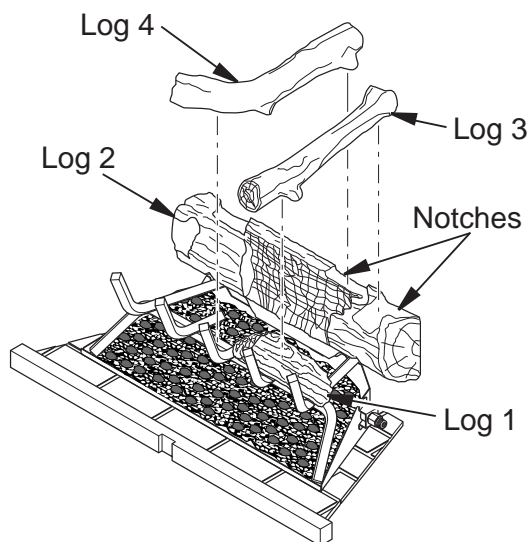
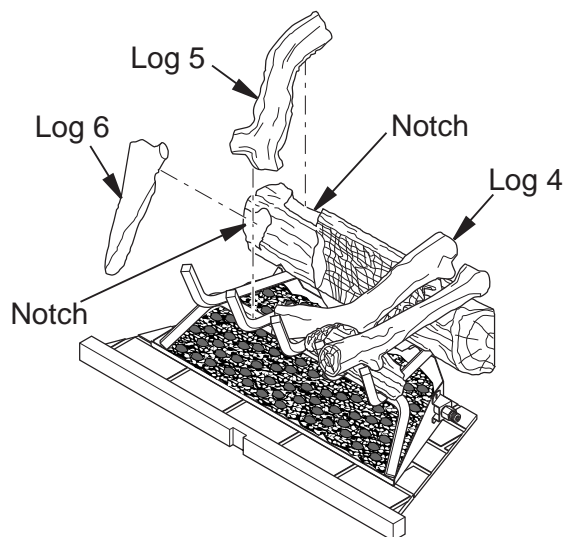
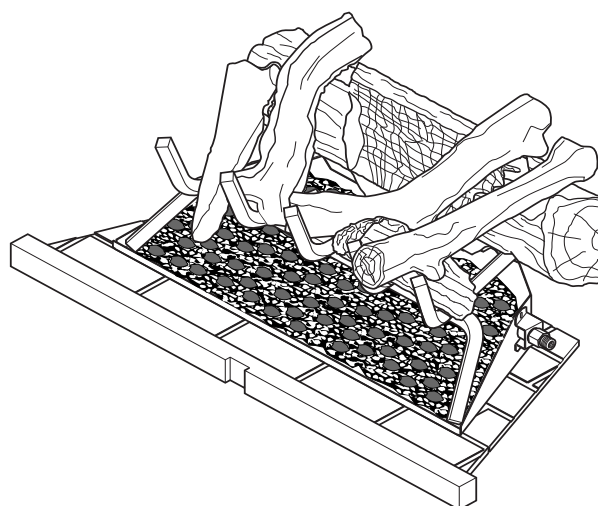

Figure 24 - Installing Logs 3 and 4
Figure 25 - Installing Logs 5 and 6
Figure 26 - Logs Installed for BRT4036TEN/TEP, BRT4336TEN/TEP and BRT4536TEN/TEP Models
3. Place log 3 into notch on log 2, resting front end on top of log 1 (see **Figure 24**).
4. Place upper end of log 4 into notch on log 2 as shown in **Figure 24**. Rest lower end of log 4 onto middle grate finger as shown in **Figure 25**.
5. Place upper end of log 5 into notch on left of log 2 (see **Figure 25**). Rest lower end of log 5 on grate as shown in **Figure 26**.
6. Insert lower end of log 6 between first two grate fingers as shown in **Figure 26** and position upper end of log 6 into notched area on front of log 2 as shown in **Figure 26**.